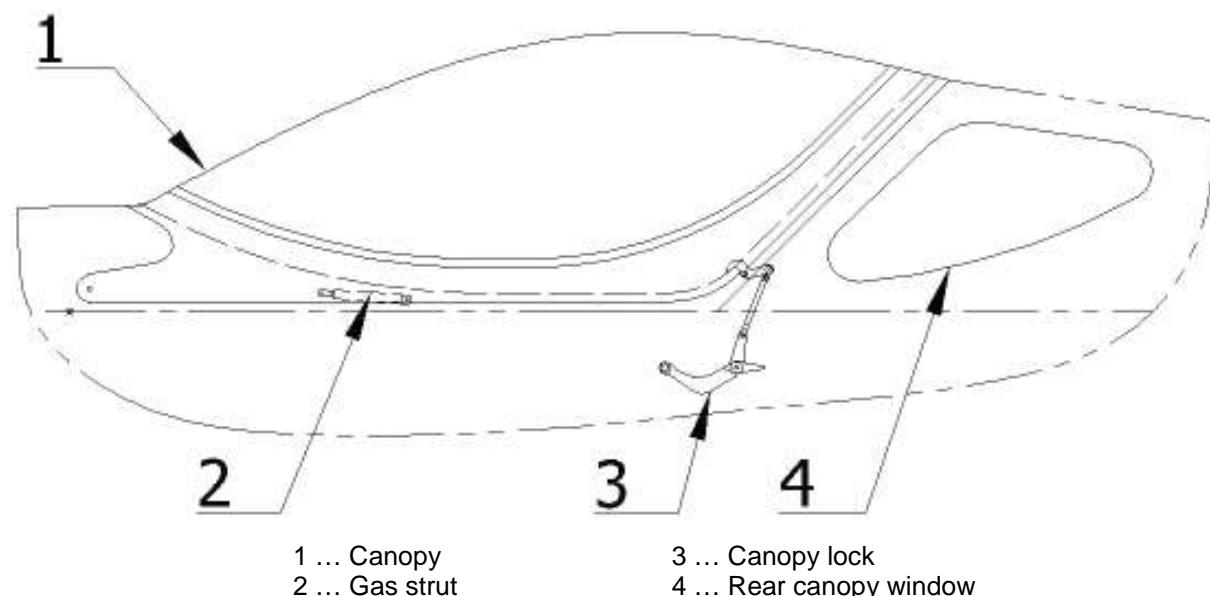

Fig. 3-2: Canopy, rear canopy window
The canopy (see Fig. 3-2) has a semidrop shape and enables access to the cockpit. The canopy consists of carbon frame on which the windscreens are attached. The canopy is suspended in two swivel hinges on front sides of the composite fixed frame. The canopy can be opened forward and is lightened by a gas strut each side which keep it in the opened position. The canopy lock is placed on the left side of fuselage below the cockpit frame. The locking levers are installed inside the fixed frame. The opening lever (in cockpit) is placed between the seats backs.
The rear fixed canopy windows (see Fig. 3-2) consists of two symmetrical windows (4) riveted and glued on the fuselage side skins.